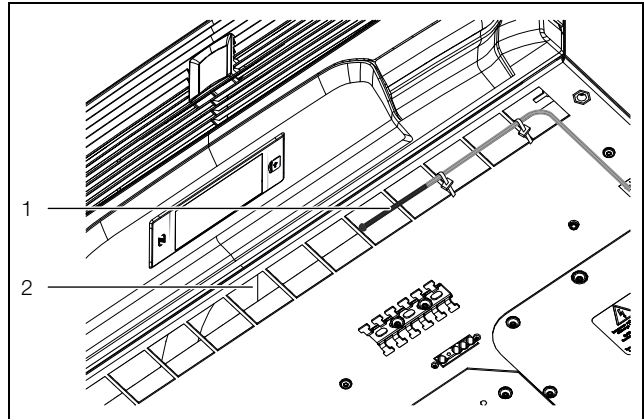

Fig. 14: Temperature sensor in front of cold air outlet
- Attach the temperature sensor in front of the cold air outlet from the cooling unit, in the centre (fig. 14).